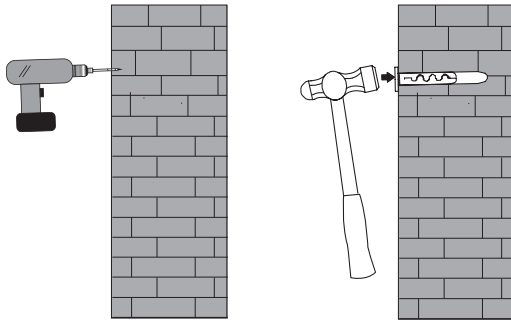

Fig.2
- Step2 Drill holes on the walls where there is pencil mark with an electric drill and get the plastic expansion inside the hole.(as Fig.2)